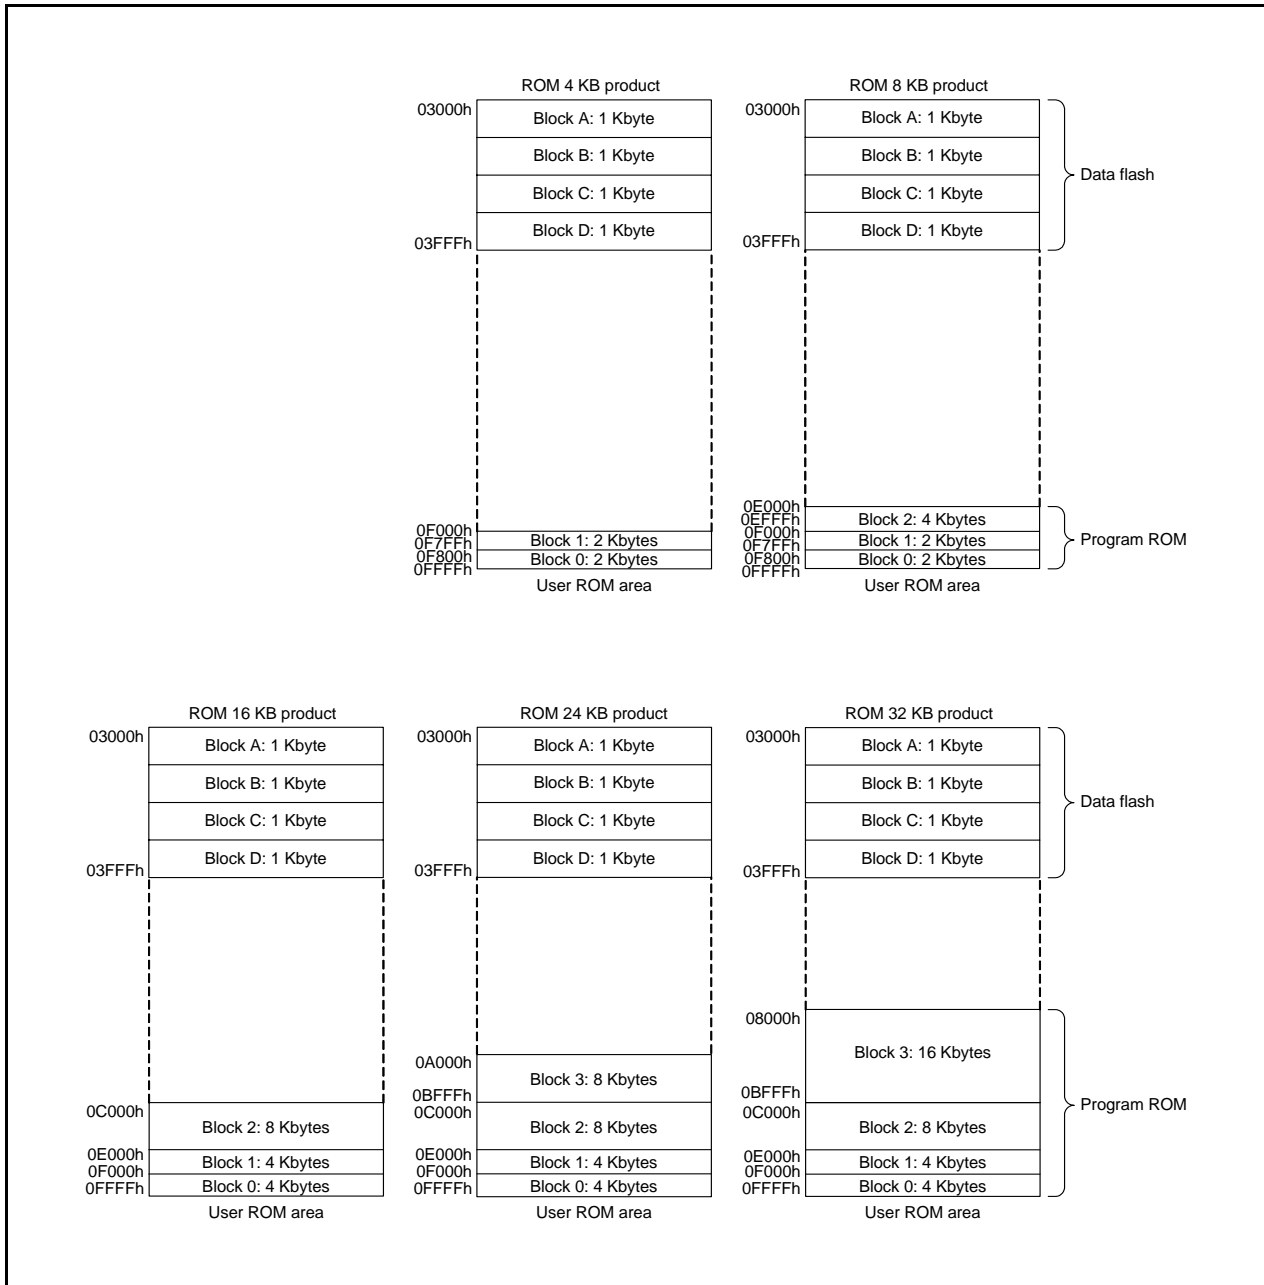

Figure 30.1 R8C/33C Group Flash Memory Block Diagram
- The number of blocks and block division vary with the MCU. Refer to **Figure 30.1 R8C/33C Group Flash Memory Block Diagram** for details.
Figure 30.1 show the R8C/33C Group Flash Memory Block Diagrams.